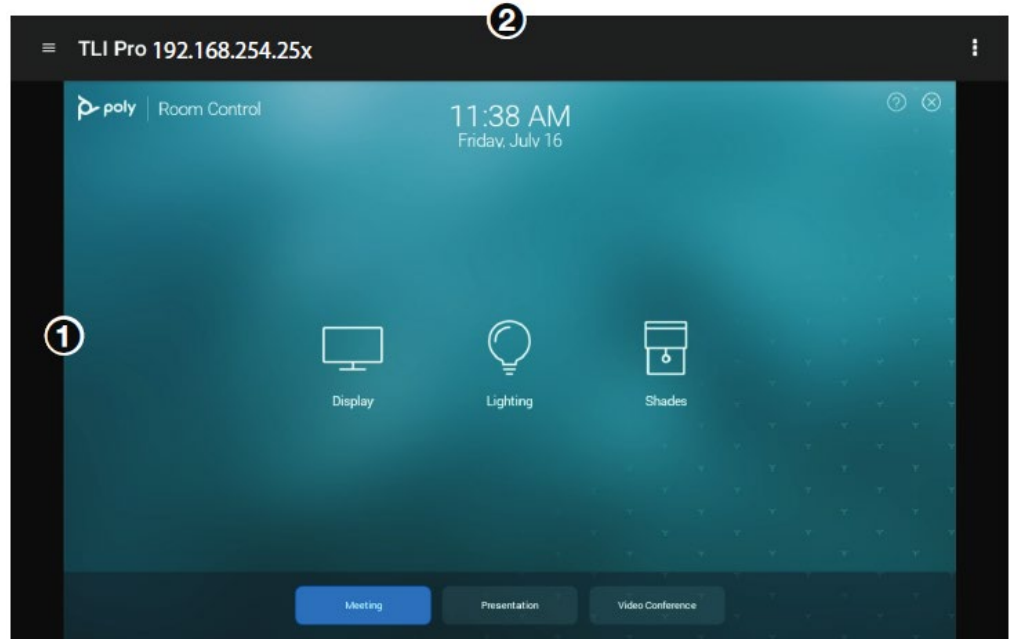

Figure 14. Default Room Control Page
5. Tap **Next** (see figure 14, ❶). The app verifies that the credentials are valid. If they are not, an error message appears. Check the credentials and reenter them if required.
The default Room Control1 page appears (see figure 14, ①) with the Room Manager bar on the top (②).